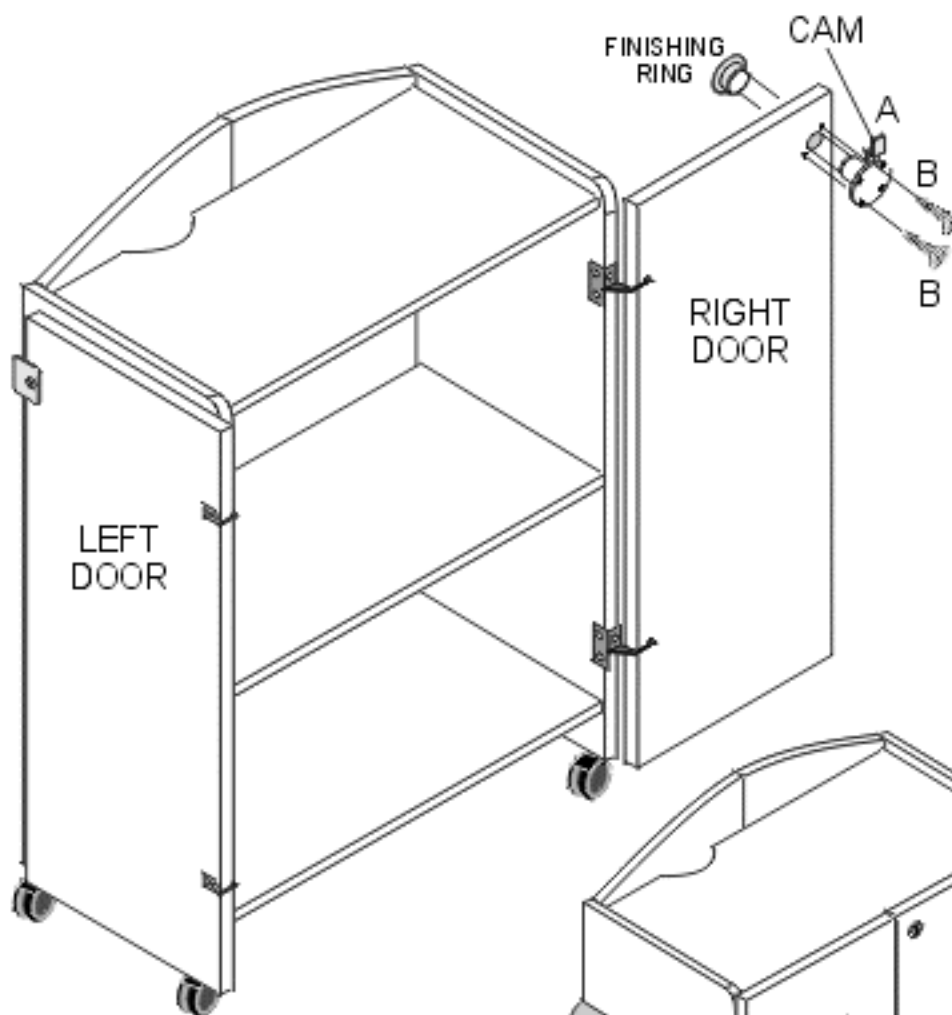

FIG. 1
Swing RIGHT DOOR out as shown. FIG. 1 Insert DOOR LOCK through back side of door. Press fit DOOR LOCK FINISHING RING over face of DOOR LOCK. Attach DOOR LOCK using (2) #6 X 5/8 FLAT HEAD SCREW (B). Insure that the CAM on the DOOR LOCK faces up.